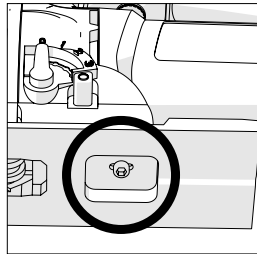

Fig 8
- Loosen the socket headed screw that holds the footplate to the machine. (**Fig. 8**)
- Refit the plastic footplate shoe ensuring that all six (6) securing lugs (2 to the front of the footplate and 2 either side) are correctly seated.